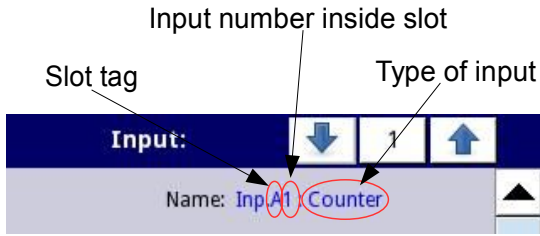

Fig. 7.80. Description of **Name** parameter in **Built-in inputs** menu
A common parameter for all **Built-in inputs** is **Name** – each input has its own unique name and it can not be changed – for description of this parameter see **Fig. 7.80**.
- **Name** - each built-in input already has a name given by the device and the user cannot change it, for the description of the **Name** parameter see **Fig. 7.80**,
- **Name** – each built-in input already has a name given by the device and the user cannot change it, for the description of the **Name** parameter see **Fig. 7.80**,
- **Name** – each built-in input already has a name given by the device and the user cannot change it, for the description of the **Name** parameter see **Fig. 7.80**.